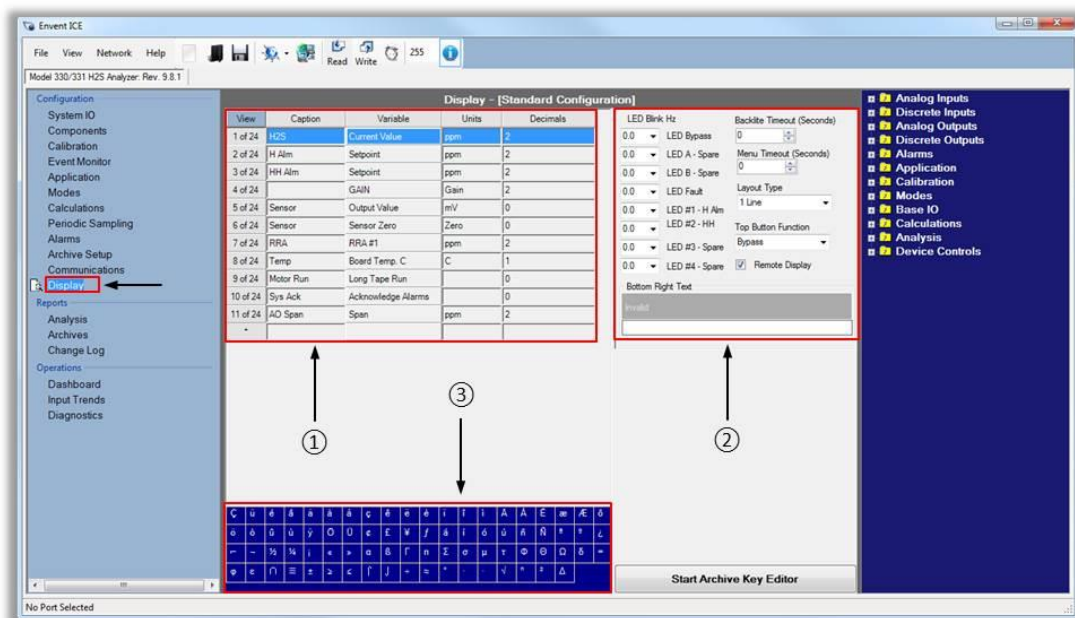

Figure 9. ICE Software: Configuration: Display Tab
To configure or change the factory configuration on the display, go to the "Display" tab on the left hand menu. Figure 9 area ① shows the current variables that appear in the analyzer display. Area ② shows different options for the LED's, display options, and button options. Area ③ is used for adding special characters into the caption and units areas.
Units are a simple multiple of the unit of measurement that describes the variable selected. Refer to Figure 9 area ①.
This is where the amount of decimals per variable are decided. Refer to Figure 9 area ①. For lower range H2S analyzers (e.g. 0-20 ppm) it is recommended to use 1 to 2 decimal points, but for high range (e.g. 0-10,000 ppm) it is recommended to not use decimal points as they are not significant enough for these ranges.
This option is used to make the LED blink when activated. The lower the value, the fastest it will blink. Zero value means no blinking. Refer to Figure 9 area ②.
Amount of seconds the display backlit will stay ON after pressing a display button. Zero means the backlit stays always ON. Refer to Figure 9 area ②.
The amount of seconds the display will wait until it automatically returns to the main menu. Zero means the display will not return to the main menu automatically. The user will need to complete the menu cycle (by pressing the menu button – lower button) until it goes back to the main menu. Refer to Figure 9 area ②.
This applies to the main menu in the analyzer display. The user can select from 1 to 4 items. These items refer to the variables selected in Figure 9 area ①. If "2 lines" is selected, the 1st and 2nd variables will appear in the main menu.